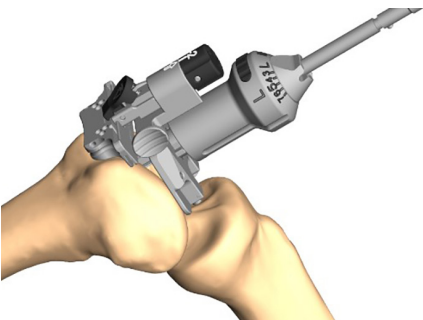

Figure 6
- 2. Slide the Intramedullary Rod of the alignment assembly into the femoral canal until the Valgus Guide contacts the distal femur (Figure 6).